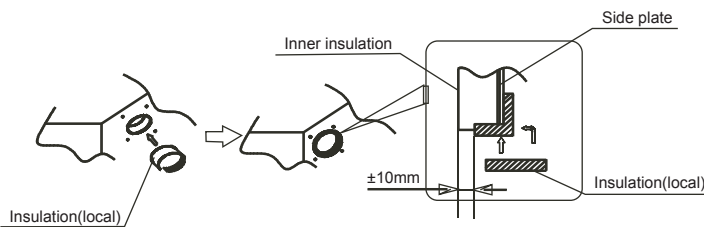

Fig.5-5
- Put the insulation tightly around the hole of the unit as shown. The ends of the side plate and the inner insulation must be completely adhered without leaving any clearance along the circumference of the hole. Make sure the inner surface of insulation tightly contacts the inner insulation edge and the side plate. (refer to fig.5-5)